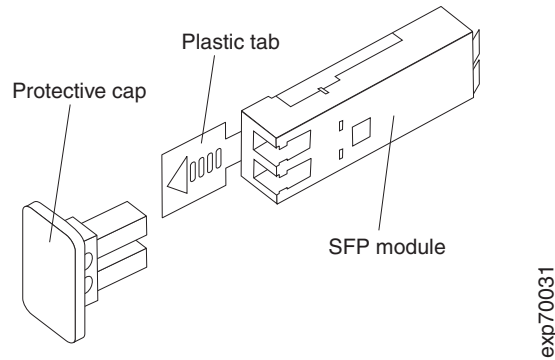

Figure 12. Small Form-Factor Pluggable (SFP) module
2. Remove the protective cap from the SFP module, as shown in Figure 12 on page 27. Save the protective cap for future use.
2. If necessary, remove the protective cap from the SFP module, as shown in Figure 12 on page 27. Save the protective cap for future use.